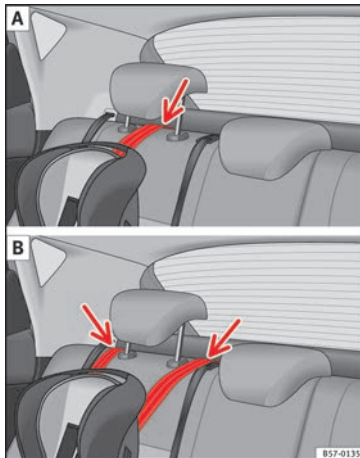

Fig. 33 Retainer strap: adjustment and assembly according to the Top Tether belt.
- Place the belt under the head restraint of the back seat »» **Fig. 33** (depending on the in-